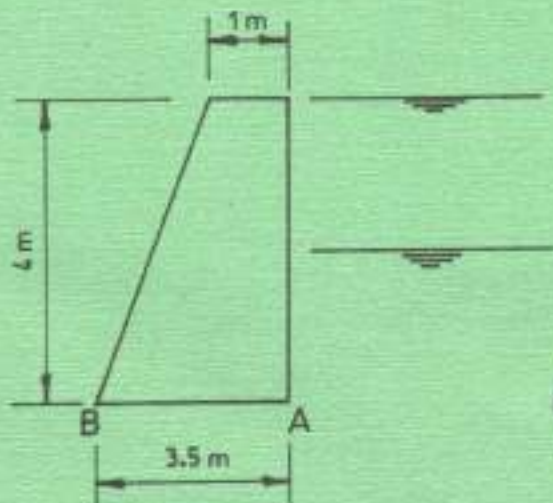

Fig.2
- (b) A trapezoidal reinforced concrete wall retains water on its vertical back as shown in figure 2. Calculate the maximum and minimum stresses at the base of the wall when the reservoir is half full.